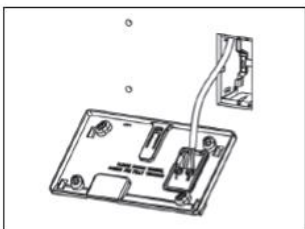

Figure 3a.
- The wiring within the wall cavity can be terminated into the respective terminals marked L and N on the wall mounting base. (See Figure 3a).